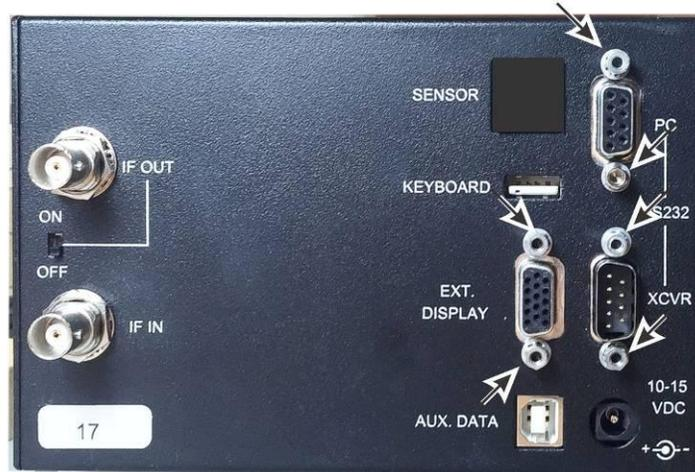

Figure 1. Jackscrew Nuts on Rear Panel.
- ❑ On the P3 rear panel, there will be either two or three multi-pin DB-type connectors, depending upon whether you have the optional P3SVGA installed (see Figure 1). Remove the jack screw nuts at each connector to free the pc board assembly inside.